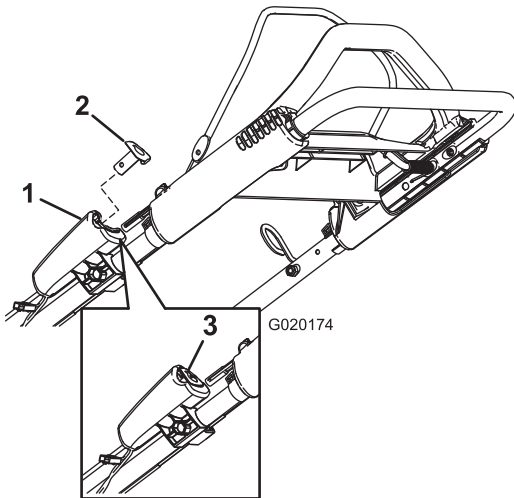
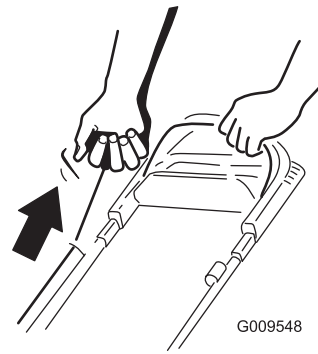

Figure 18
Figure 19
2. Push the electric-start button (electric-start model only; refer to Figure 18) or pull the recoil-start handle (Figure 19).
Note: If the electric-start button has been removed, insert it into the electric starter; refer to Figure 18 (electric-start model only).
Note: When you pull the recoil-start handle, pull it lightly until you feel resistance, then pull it sharply (Figure 19). Allow the rope to return to the handle slowly.